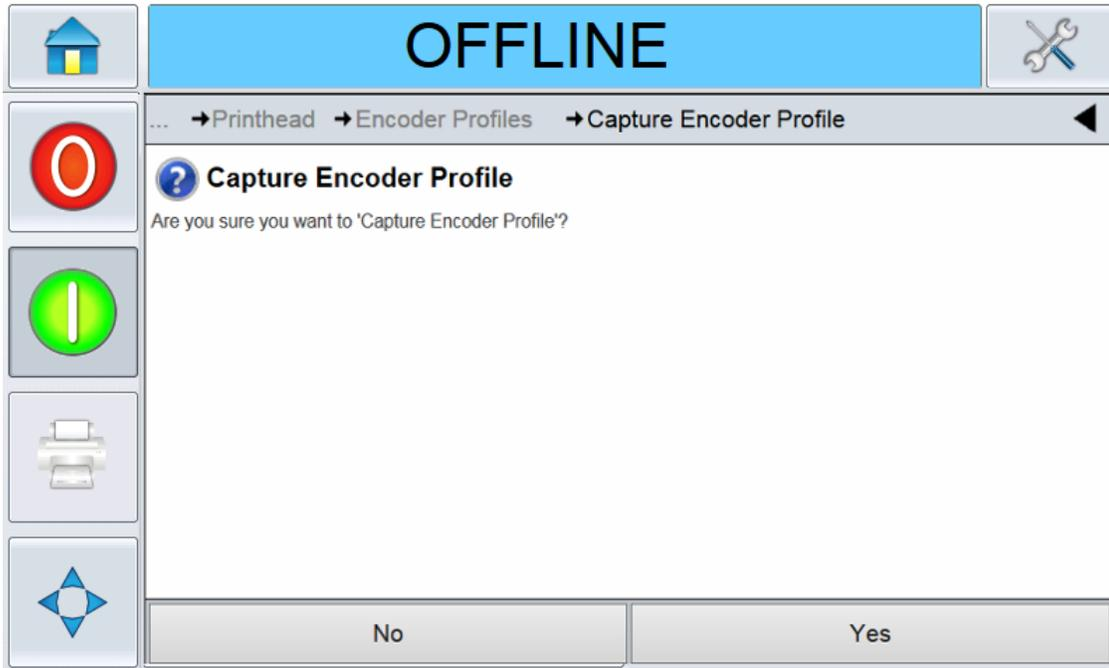

Figure 5-16: Capture Encoder Profiles Screen
- Once the options have been configured, start the capture process by touching the Capture Encoder Profile button. The Capture Encoder Profile screen appears (Figure 5-16).